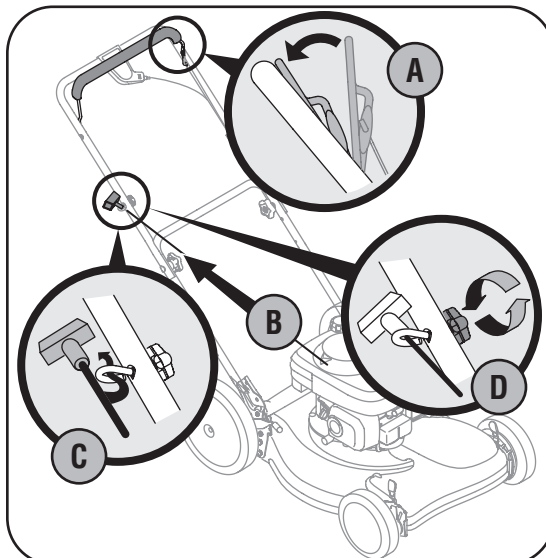

Figure 3-3
3. The rope guide is attached to the right side of the upper handle. Loosen the wing nut which secures the rope guide. See Figure 3-3.